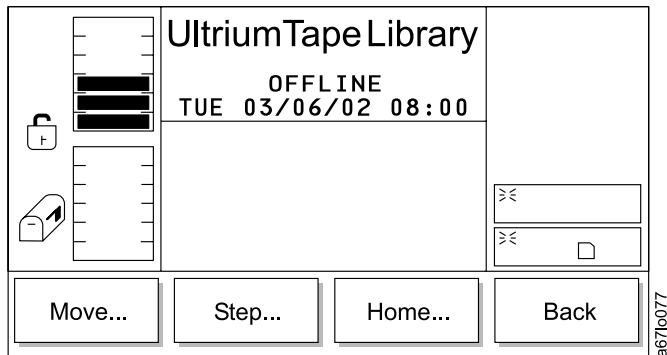

Figure 174. Picker Submenu
- If **Picker** is selected, the Picker Submenu displays (see Figure 174 on page 140).
- If **Cancel** is selected, the Picker Submenu displays (see Figure 174 on page 140).